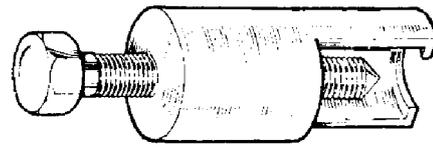

FIG. 16
**Removing small timing pinion.** The nut securing this pinion has a *left-hand* thread. The pinion is a taper fit on the shaft and usually requires an extractor tool B2151 similar to the one shown in Fig. 16. When using any kind of extractor apply light pressure on the withdrawal part of the tool, then give the end a sharp blow with a hammer, the shock will dislodge the pinion. A new pinion will absorb backlash and cure timing gear rattle.